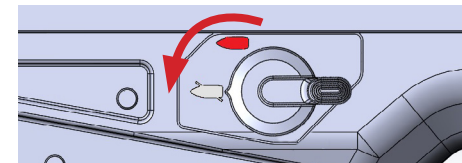

Fig. f-1
1. To unload/clear the MDR, first rotate the fire selector switch to "Safe" (Fig. f-1)